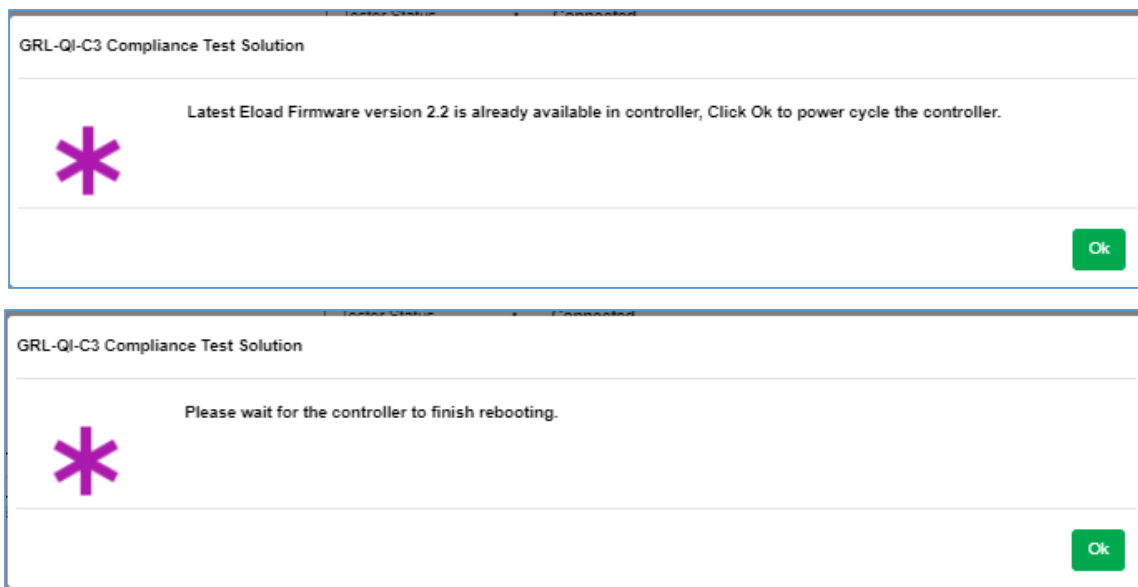

FIGURE 7.6: UPDATE GRL-C3 E-LOAD FIRMWARE
4. Once the E-Load firmware update process has completed successfully, click “Ok” for the GRL-C3 tester hardware to power cycle and reboot (Figure 7.6 below).